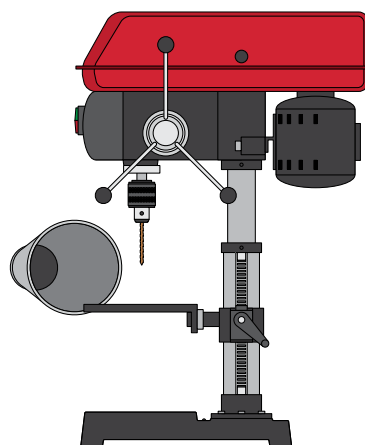

FIG. 34c
- c. Round Hoods provide the highest airflow and lowest static pressure drop compared to other hood shapes, but they sacrifice surface area so they are best suited for tools with a very small dust area such as drill presses, CNC machines, etc. [FIG. 34c]